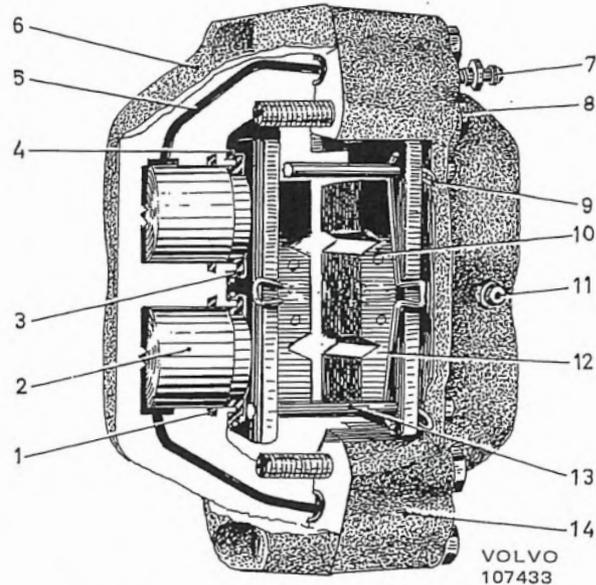

Fig. 5-8. Front wheel brake caliper
Mounted on the stub axle is the front wheel brake caliper (3) which houses the wheel unit cylinders and brake pads. The front wheel brake caliper consists of a housing in two halves (6 and 14, Fig. 5-8) bolted together and located on either side of the brake disc. Each half contains two cylinders and pistons. The upper cylinder is completely separated from the lower one, but both upper and lower cylinder are each connected through channels to the corresponding cylinder in the other half. The function of the sealing rings (1) is partly to prevent brake fluid from oozing out and partly to return the pistons to the rest position after braking. Rubber dust covers (3) prevent dirt from entering. Each sealing ring has a square section and presses against the piston from the slightly oblique groove in the housing. The brake pads (10) are provided with bonded facings and are held in position by means of retaining pins (13).